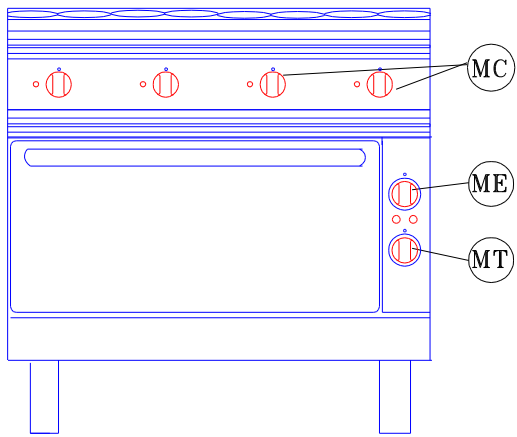

Fig.1 - Abb. 1
- Turn the knob of switch **ME** (Fig. 1) to **3**; then turn the knob **MT** to the position corresponding to the desired temperature: the green and yellow LEDs are on. Thus the top and bottom resistors are powered at the maximum value until the desired temperature is reached: this is signalled by the yellow warning light getting off.
- In case of any fault, stop the equipment operation turning all the knobs **MC**, **MT** and **ME** (Fig. 1) to **0**.